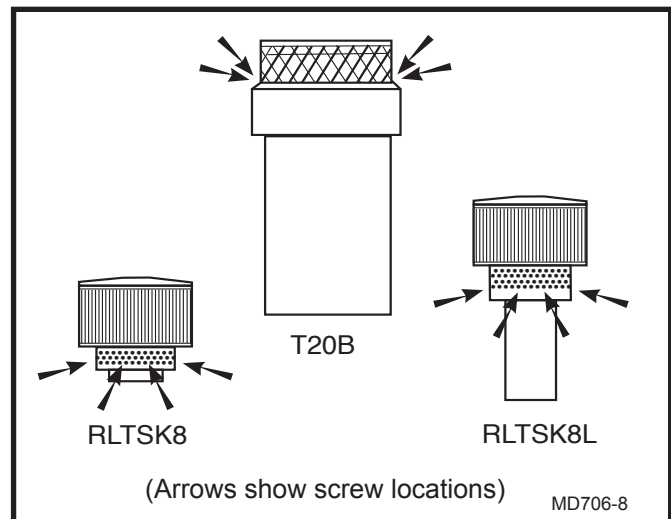

Fig. 10 Chimney cap removal.
When wood is burned slowly, it produces tar and other organic vapors, which combine with expelled moisture to form creosote. The creosote vapors condense in the relatively cool chimney flue of the slow burning fire. As a result, creosote residue accumulates on the flue lining. When ignited this creosote makes an extremely hot fire. Inspect the flue for creosote buildup. The chimney should be inspected at least once every two (2) months during the heating season. If 1/8" or more of creosote has accumulated, it should be removed to reduce the risk of a chimney fire. Special tools and expertise are required to clean a flue. It is recommended that a qualified chimney sweep provide this service. To gain access to the flue for inspection, and/or cleaning, the chimney cap or top housing need to be removed. Refer to Figure 10 to identify the style of the top housing. Remove screws as indicated.